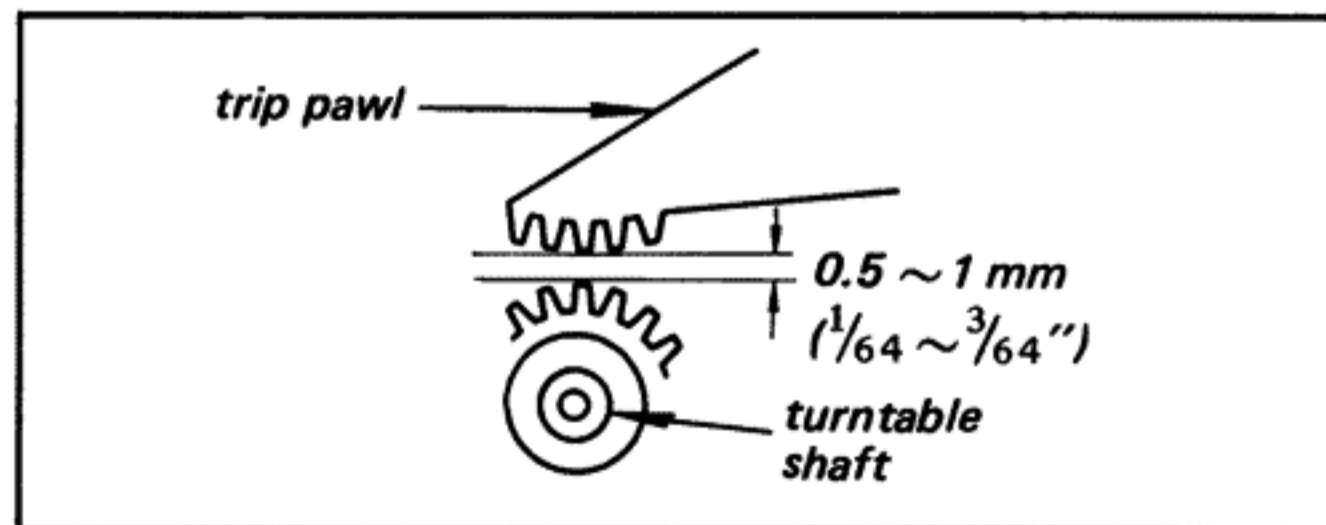

Fig. 2-9. Turntable shaft adjustment
5. Confirm that the clearance between the gear of the turntable shaft and the trip pawl is 0.5 ~ 1 mm ($\frac{1}{64}$ ~ $\frac{3}{64}$ "') as shown in Fig. 2-9.